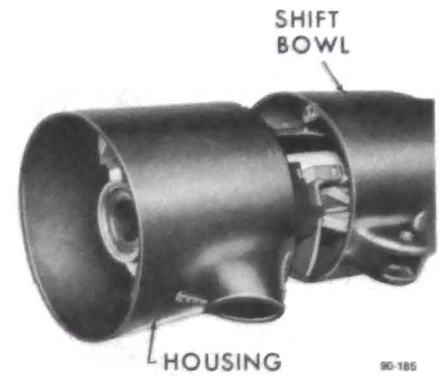

Figure 90-125 - Installing Upper Bearing Housing
9. With the bowl in place, install the upper bearing housing assembly on the jacket. The bowl should be in the "Park" position and the rack pulled downward. Be sure the housing is seated on the jacket and install the screws. See Figure 90-125.